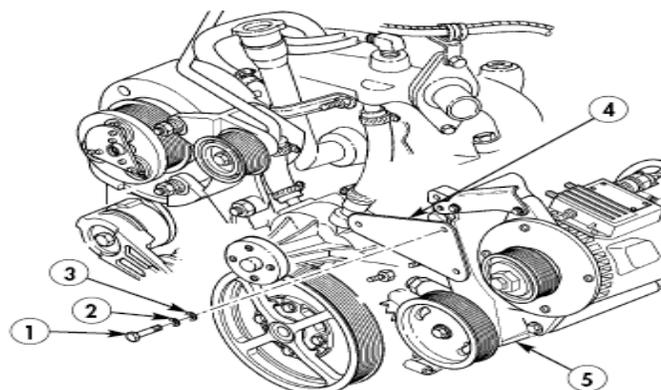

Figure 11
(1) Remove screw (15), pulley support (10), idler pulley (11), cover (12), two washers (13), and lock washer (14) from idler pulley bracket (8) and alternator/pump support (9). Discard lock washer (14).
(2) Remove screw (1), spacer (7), pulley support (6), idler pulley (5), cover (4), two washers (3), and lock washer (2) from idler pulley bracket (8) and alternator/pump support (9). Discard lock washer (2).
k. Removal of Idler Pulley Bracket. TM 9-2320-387-24-1, Chapter 3, Task Para 3-82.7, Page 3-146 and **Figure 11** contained in these instructions.
(1) Remove screw (1), washer (3), lock washer (2), and idler pulley bracket (4) from alternator/pump support (5). Discard lock washer (2).